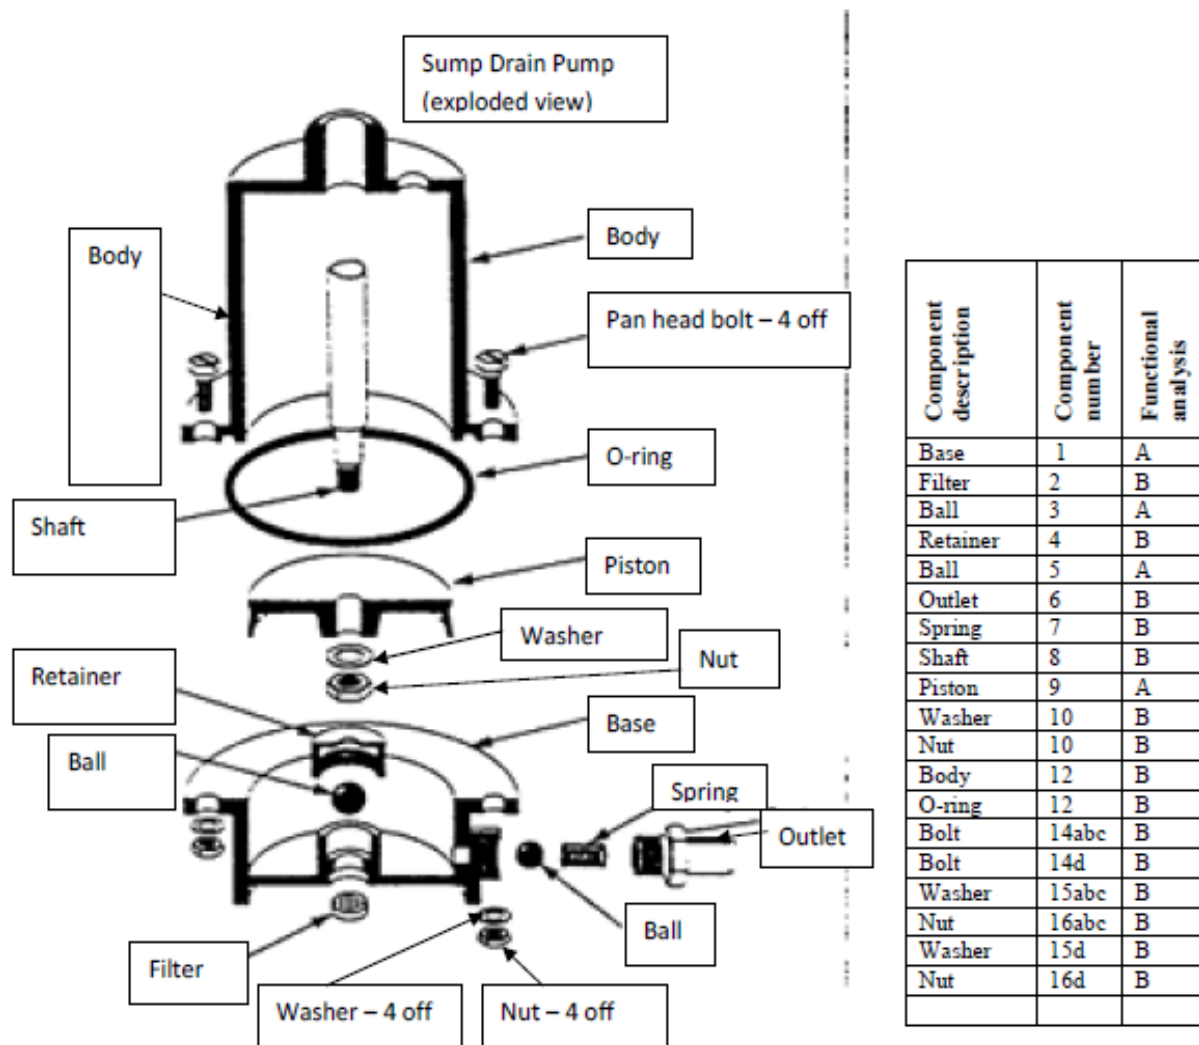

Fig Q4
- (b) Use the Lucas DFA method on Figure Q4 to determine the: